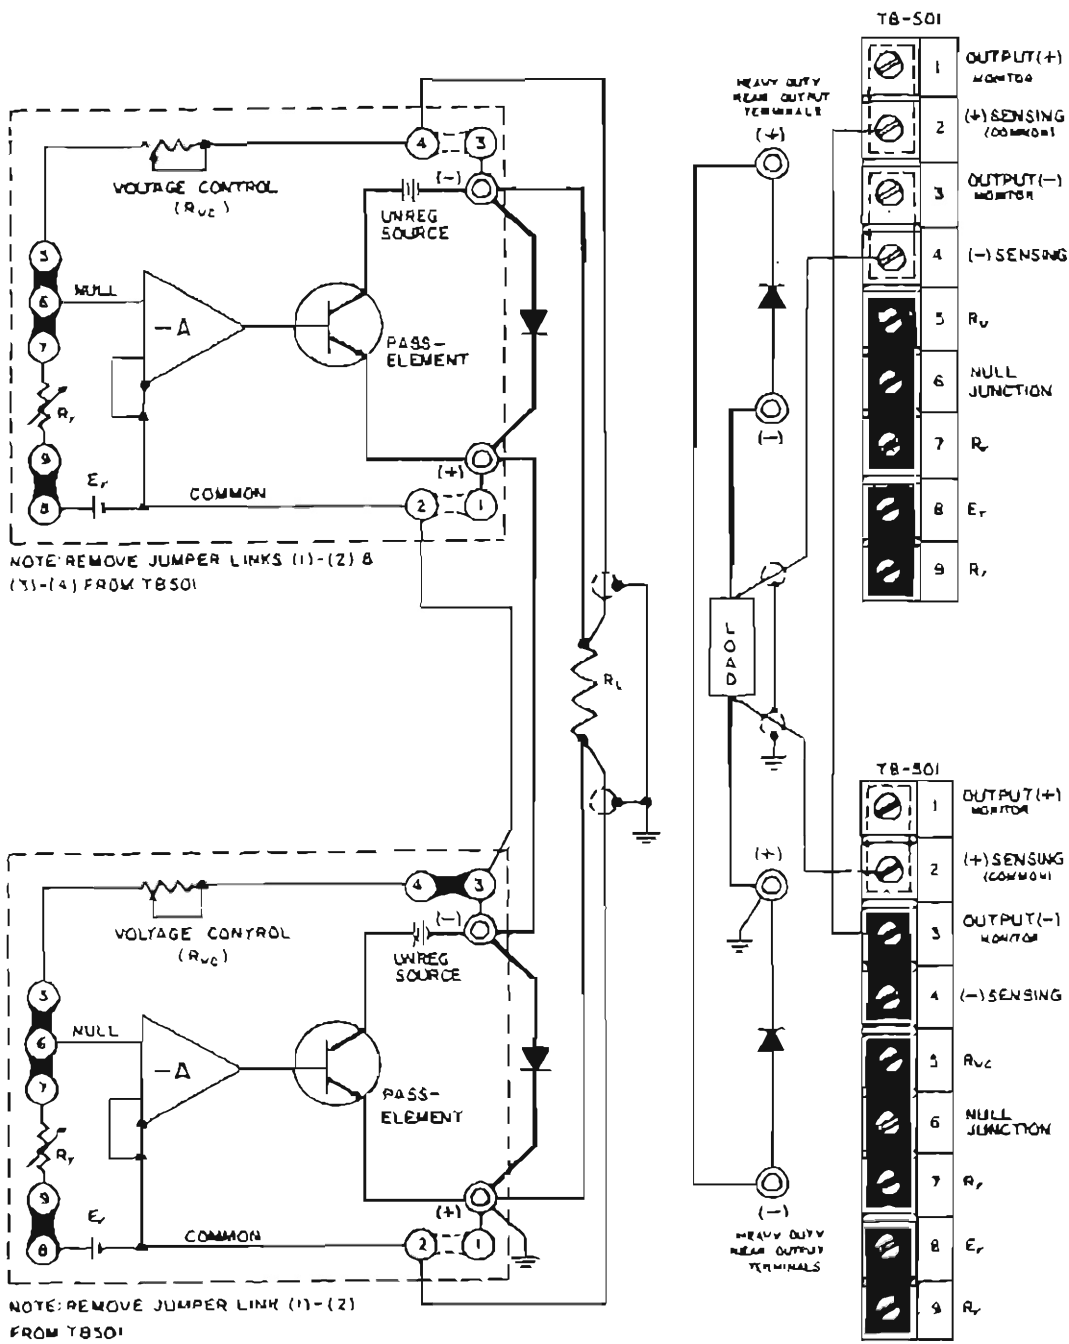
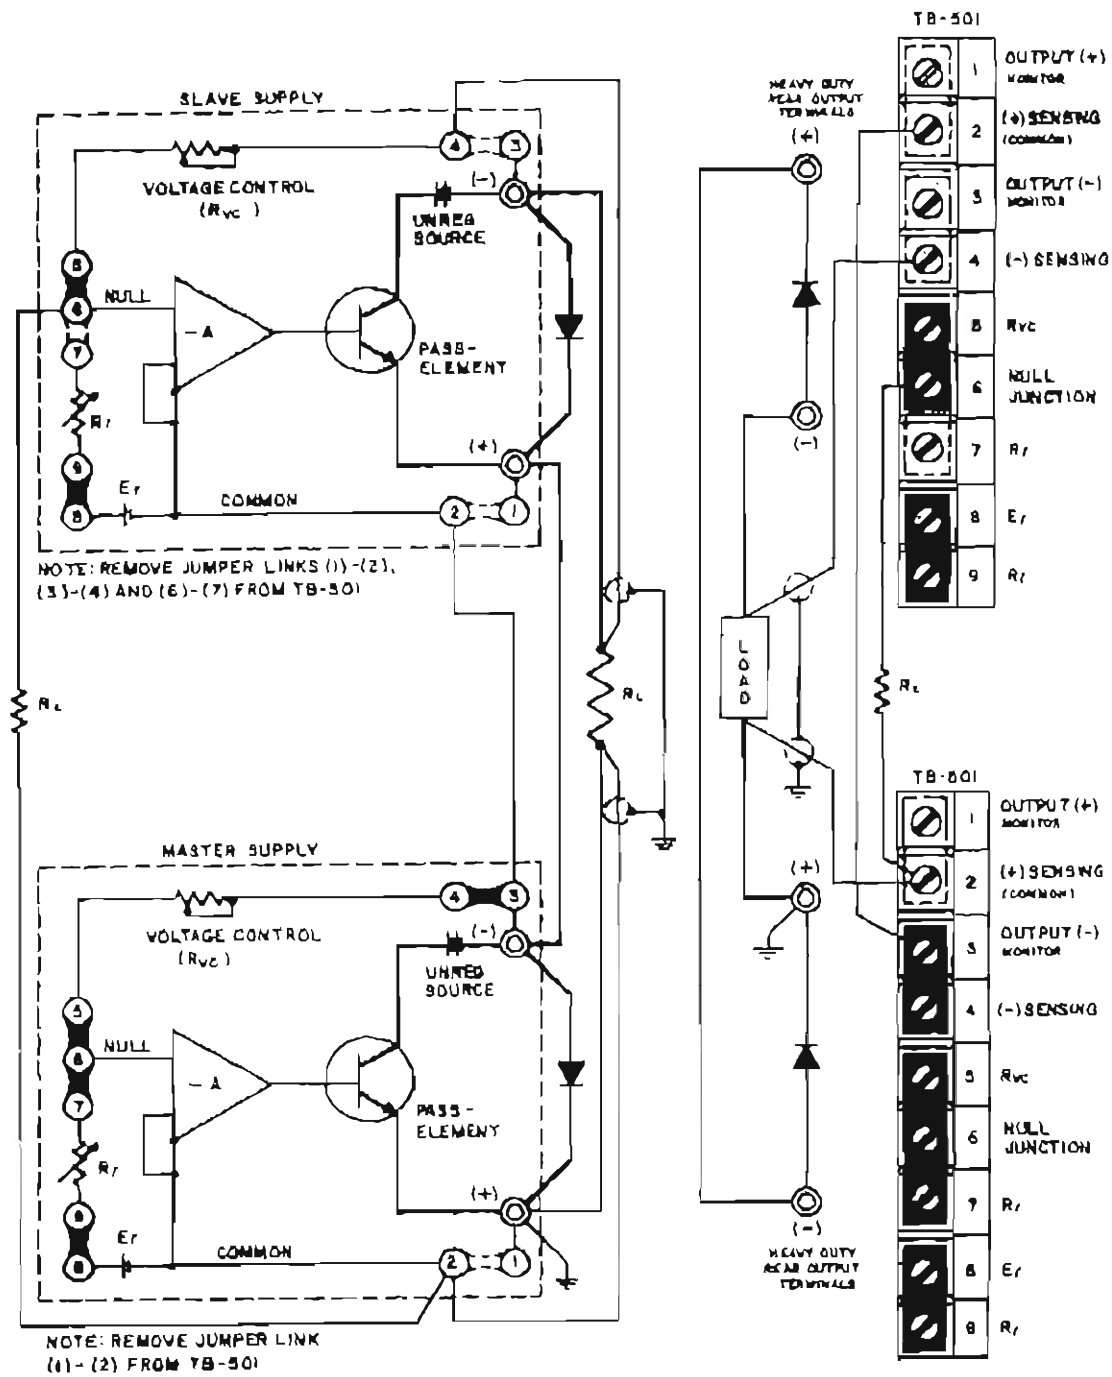

FIG. 3-10 AUTOMATIC SERIES CONNECTION OF KEPKO POWER SUPPLIES
FIG. 3-11 MASTER-SLAVE SERIES CONNECTION OF KEPKO POWER SUPPLIES
3-35 GENERAL. Kepco Power Supplies can be series-connected for increased voltage output, provided the specified limits on voltage to chassis are not exceeded. When series-connected, the supplies should be protected by means of a semiconductor diode across the output terminals of each power supply, as shown in FIG. 3-10. The peak inverse rating of these diodes must be at least as large as the output voltage of the supply to which they are connected. The continuous current rating of the diodes should be at least as great as the largest short-circuit current of the interconnected supplies.
3-36 Two basic series connection methods are generally used, the "Automatic Series Connection", as illustrated in FIG. 3-10, and the "Master-Slave" connection, shown in FIG. 3-11. The basic difference between these two alternate methods lies in the manner of the output control. While in the "Automatic" connection the outputs of both supplies may be controlled individually, in the "Master-Slave" connection, control is exercised from the "Master" supply alone, while the "Slave" supply follows the master command in a ratio which may be pre-determined by the user. The latter method of series operation is therefore frequently termed "Automatic Tracking".
- a) Connect load as shown in FIG. 3-10. Keep voltage drop in load wires as low as practical by using heavy gauge wire.
- 3-38 The "Master-Slave" series connection method is illustrated in FIG. 3-11. As seen from the figure, the reference voltage (E_r) of the "Slave" supply is disconnected and its input or null junction is connected to the output of the "Master" supply via the tracking resistor (R_t). The "Slave" supply output is thus completely dependent on the "Master" output voltage:
- a) Connect load as shown in FIG. 3-11. Keep voltage drop in the load wires as low as possible by using heavy gage wire.
- c) Remove jumper links as shown (FIG. 3-11) and connect error sensing leads if remote sensing is desired. Sensing leads should be twisted and shielded.
- d) Select value of the tracking resistor (R_t) and connect with shielded wire as shown (FIG. 3-11).